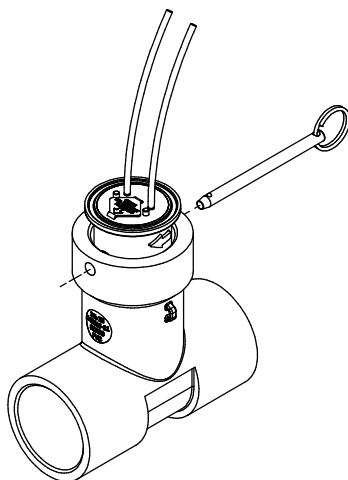

Figure 16
5. Next, replace the quick release pin (see Figure 16).